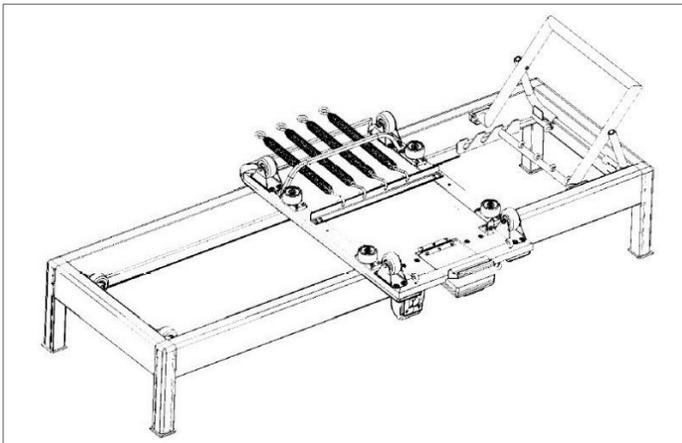

Figure 1
3. Lift old carriage out of frame and lay upside down onto reformer rails. See Figure 1.